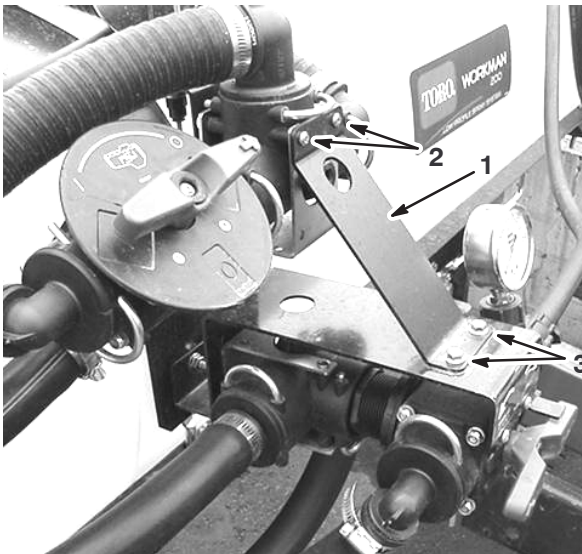

Figure 8
- On a Workman Spray System (Fig. 8), remove the 2 screws securing the upper tee and install the support bracket using the screws, 2 flange-head bolts (1/4 x 3/4 inch,) and 2 flange nuts (1/4 inch).